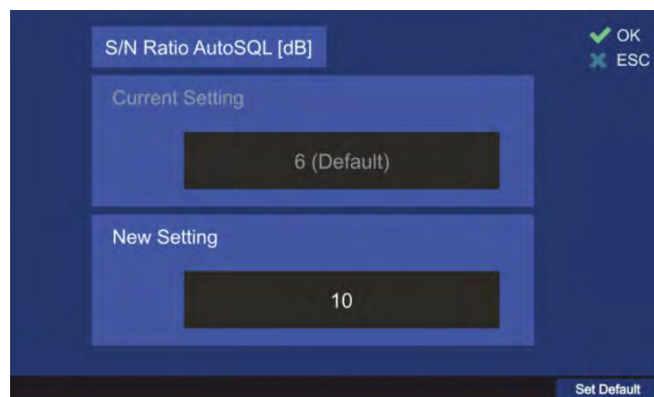

Figure 106. S/N Ratio for auto squelch function
- o By pressing the “OK button or hotkey “Edit Value”, while the setting “S/N Ratio AutoSQL [dB]” is marked, the following dialog is opened (s. Figure 106).